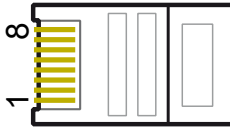

Fig. 8: Contact assignment (= line number) of the RJ45 plug
1) Contact assignment of the RJ45 plug for the RS485 bus: See Fig. 8.